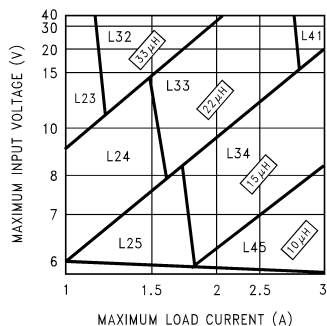
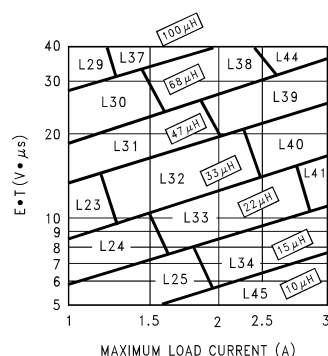

Figure 21. LM2670-3.3EP
Figure 24. LM2670-ADJEP
Step 3: Determine the inductor required by using one of the four nomographs, Figure 21 through Figure 24. Table 1 provides a specific manufacturer and part number for the inductor.
Step 5: Determine an input capacitor from Table 7 for fixed output voltage applications. Use Table 3 to find the specific capacitor type. For adjustable output circuits select a capacitor from Table 3 with a sufficient working voltage (WV) rating greater than $V_{in\ max}$, and an rms current rating greater than one-half the maximum load current (2 or more capacitors in parallel may be required).
Step 3: Use the nomograph for the 3.3V device, Figure 21. The intersection of the 16V horizontal line ($V_{in \text{ max}}$) and the 2.5A vertical line ($I_{load \text{ max}}$) indicates that L33, a 22 μ H inductor, is required.
Step 3: To use the nomograph for the adjustable device, Figure 24, requires a calculation of the inductor Volt•microsecond constant (E•T expressed in V•μS) from the following formula:
Using Figure 24, the intersection of $27V \cdot \mu S$ horizontally and the $2A$ vertical line ($I_{load \max}$) indicates that L38, a $68\mu H$ inductor, should be used.
When using the adjustable device in low voltage applications (less than $3V$ output), if the nomograph, Figure 24, selects an inductance of $22\mu H$ or less, Table 10 does not provide an output capacitor solution. With these conditions the number of output capacitors required for stable operation becomes impractical. It is recommended to use either a $33\mu H$ or $47\mu H$ inductor and the output capacitors from Table 10.